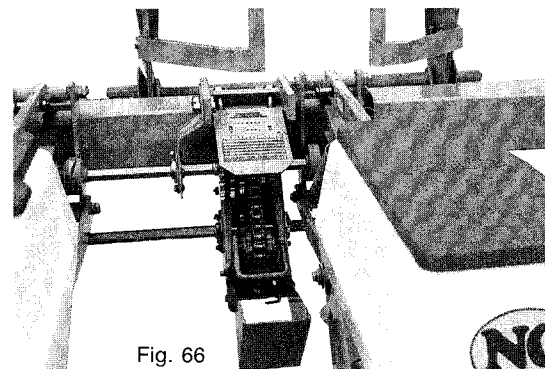

Fig. 66
- Offset assembly: (fig. 66) for planters with an odd number of rows and inter-row spacing of less than 18" (45 cm). The gearbox is then mounted on the left and as close as possible to the central metering unit. To do so, remove one of the bearing brackets (4) which support the hexagonal shaft.